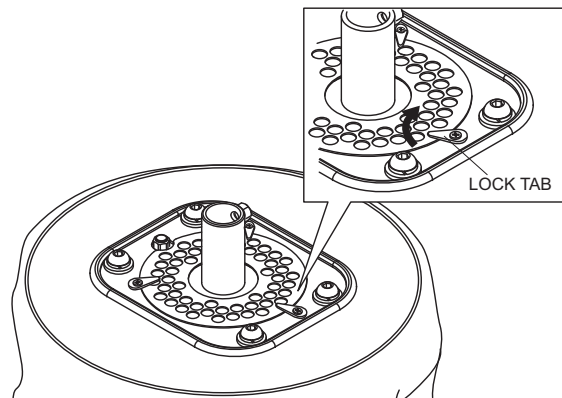

Figure 46. Locking Air Plate
6. Turn the three locking tabs inwards to lock the air plate in place. See Figure 46.